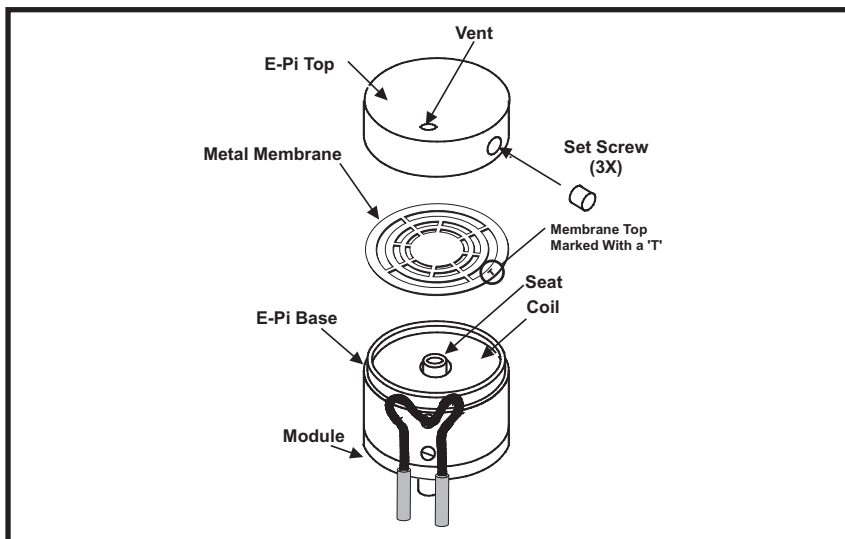

Figure 7 - E-Pi Assembly
- 3.3.1 The E-Pi Module can be cleaned and serviced to remove contaminants. Review Figure 7.